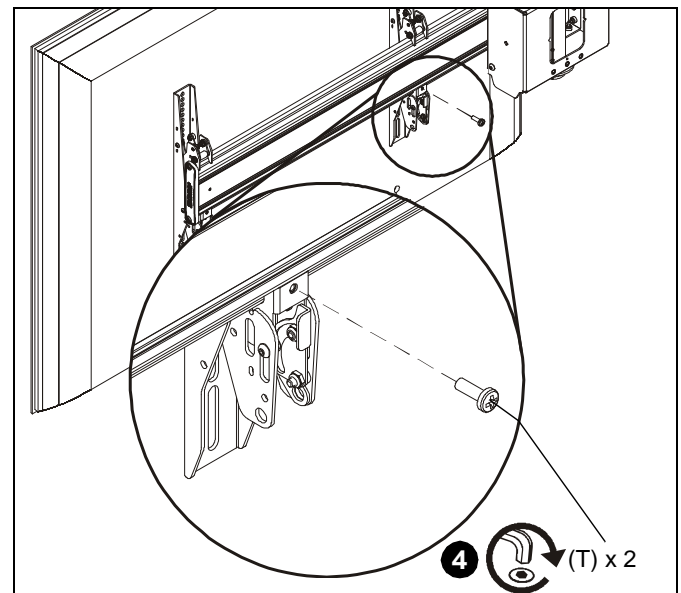

Figure 14
4. Fasten bracket against mounting rail using one 1/4-20 x 3/4" Phillips head machine screw (T). (See Figure 14)